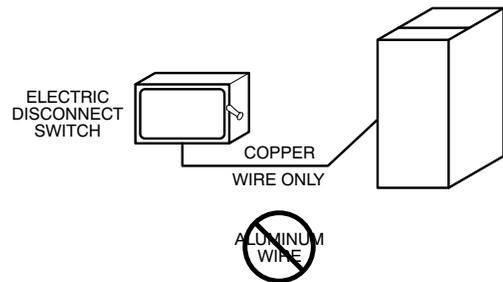

Fig. 33 – Field-Supplied External Electrical Box on Furnace Casing
Do not connect aluminum wire between disconnect switch and furnace. Use only copper wire. See Fig. 33.
1. Drill two (2) 1/8-in. (3 mm) pilot holes through the dimples in the furnace casing near the 7/8-in. (22 mm) knockout or plug on the side of the casing. Do not remove the knockout or plug in the side of the casing.
3. Install two (2) screws through the outside of the casing to secure the J-Box bracket to the furnace casing.
9. Connect field power and neutral leads to furnace power leads inside the external electrical box as shown in Fig. 33.